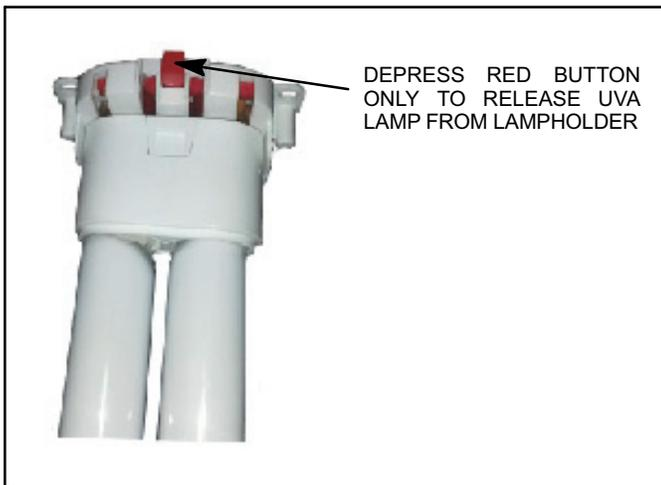

Figure 4. UVA Lamp Installed in Lampholder
4. Secure the UVA lampholder to the UVA lamp by sliding the UVA lamp pins into the slots. Proper connection (see figure 4) will make a snapping sound.